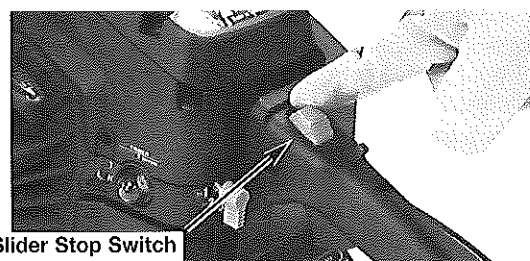
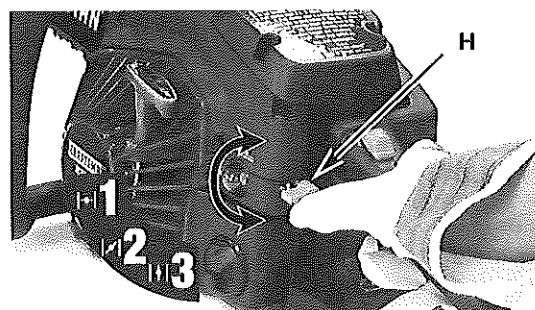

Fig. 4
Fig. 6
2. Move the STOP switch up to the STOP position (Fig. 4).
1. Slide the STOP switch down (Fig. 4). The **red choke lever** (H) has 3 positions: Positions 1, 2 and 3 (Fig. 6).
3. Move the **red choke lever** (H) to Position 1 (Fig. 6).